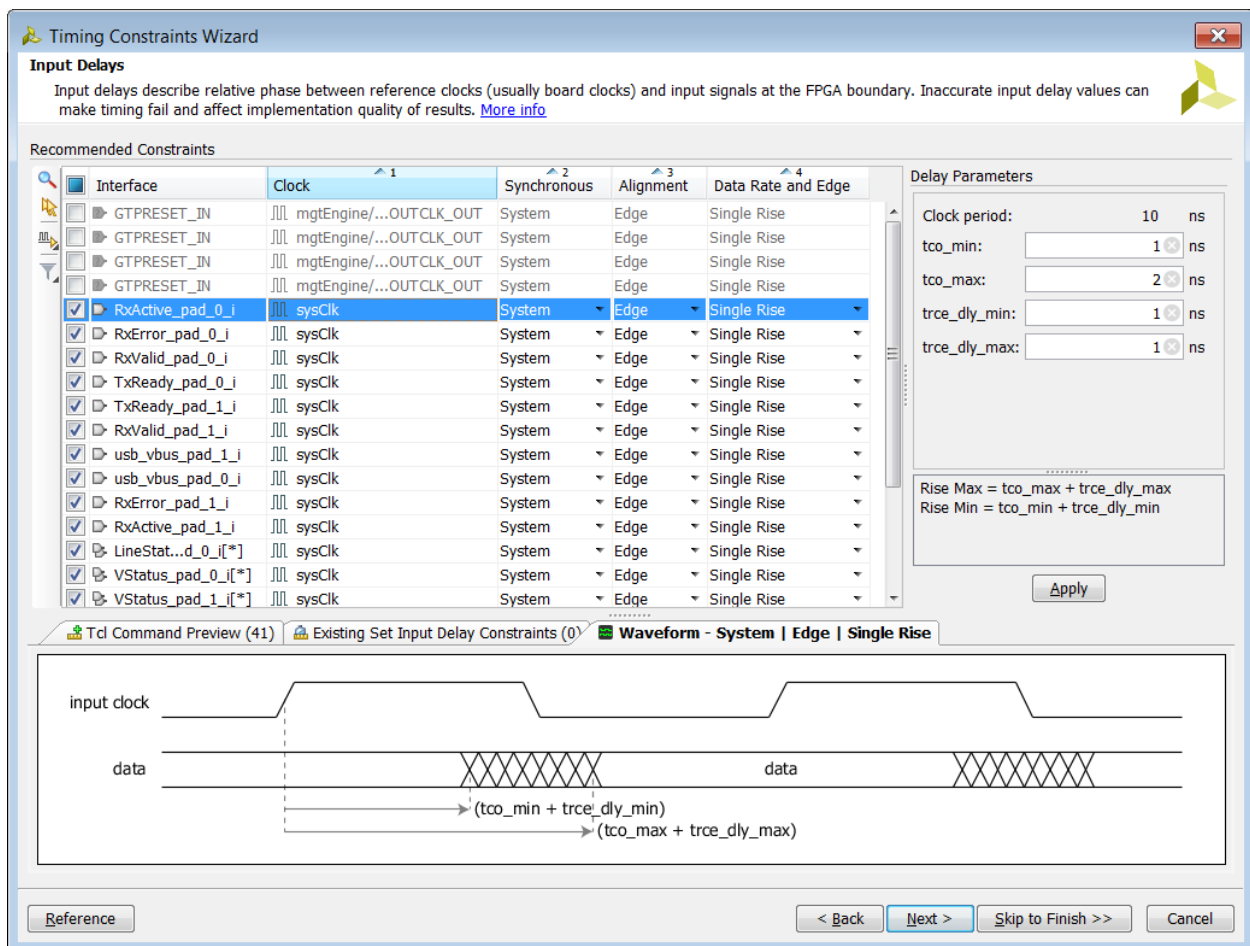

Figure 9: Completed Inputs Page of the Timing Constraints Wizard
12. Figure 9 shows the completed input delay page. Note the four constraints being skipped.